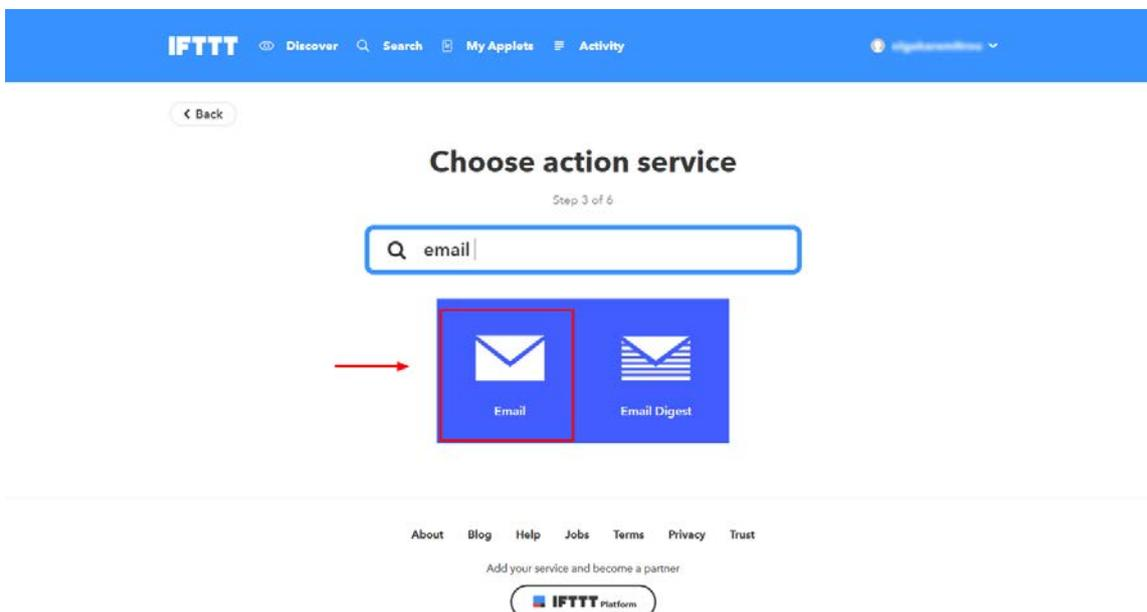

Figure 80: Make an IFTTT Applet, Step 3
- 8. On the 'Choose action service' screen, type in "email" in the search field and click the **Email icon**, as shown below in Figure 80.